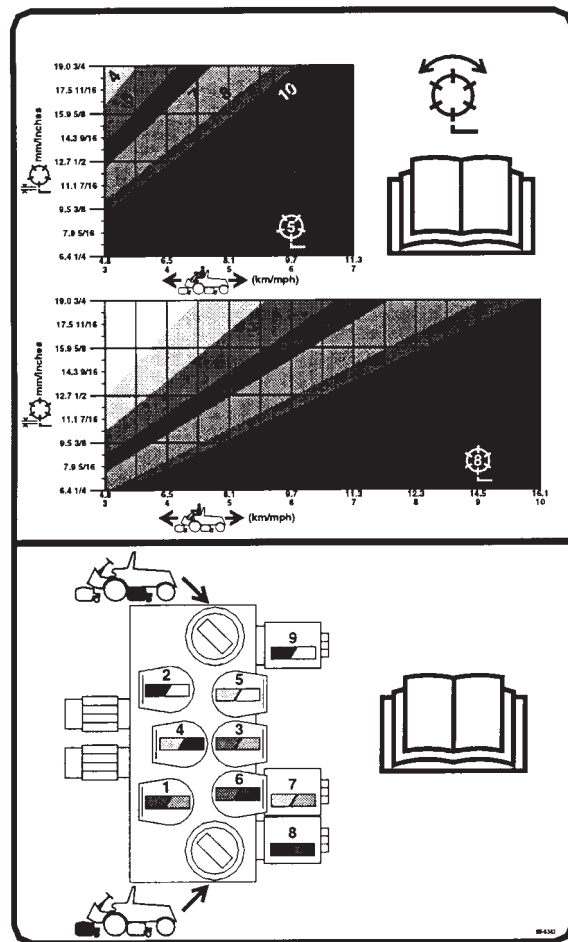

Figure 31
3. Using the appropriate graph (Fig. 31) for 5 blade or 8 blade cutting units, determine the proper reel speed setting.